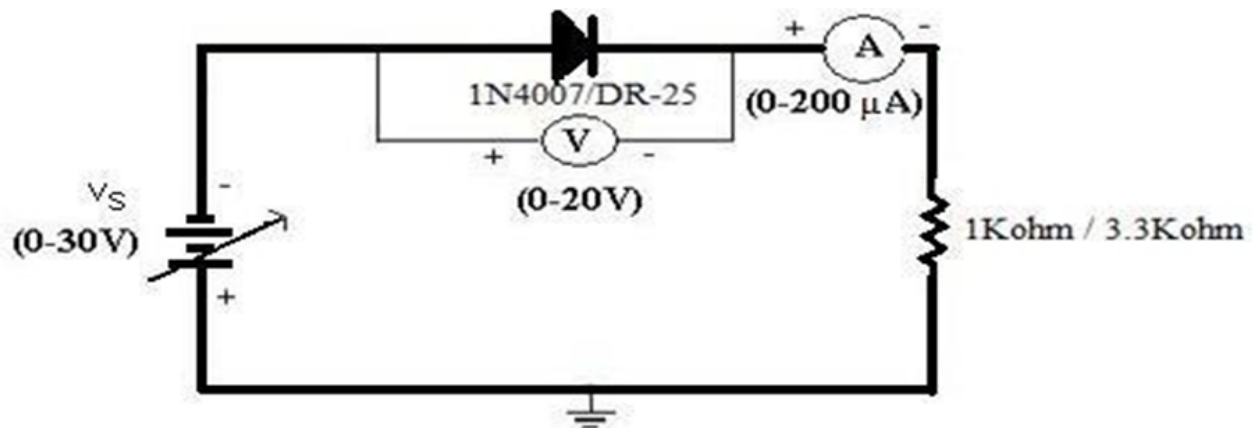

Fig. 2: Reverse Bias Condition
1. Connect the diode in the reverse bias as shown in the Fig.2.